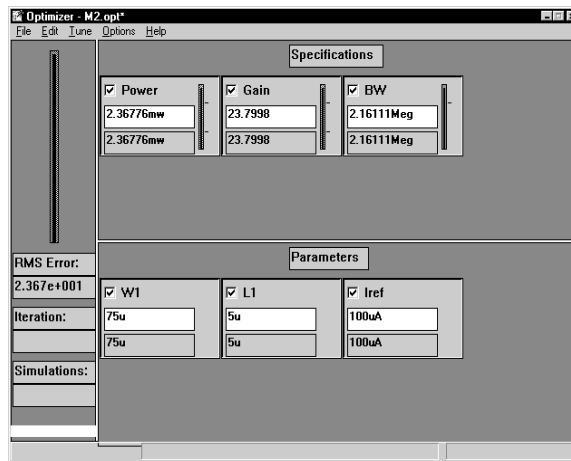

Figure 29 Updated performance values for the amplifier example.
- 1 From the Tune menu, choose Update Performance to calculate initial performance. The results are as shown in Figure 29.